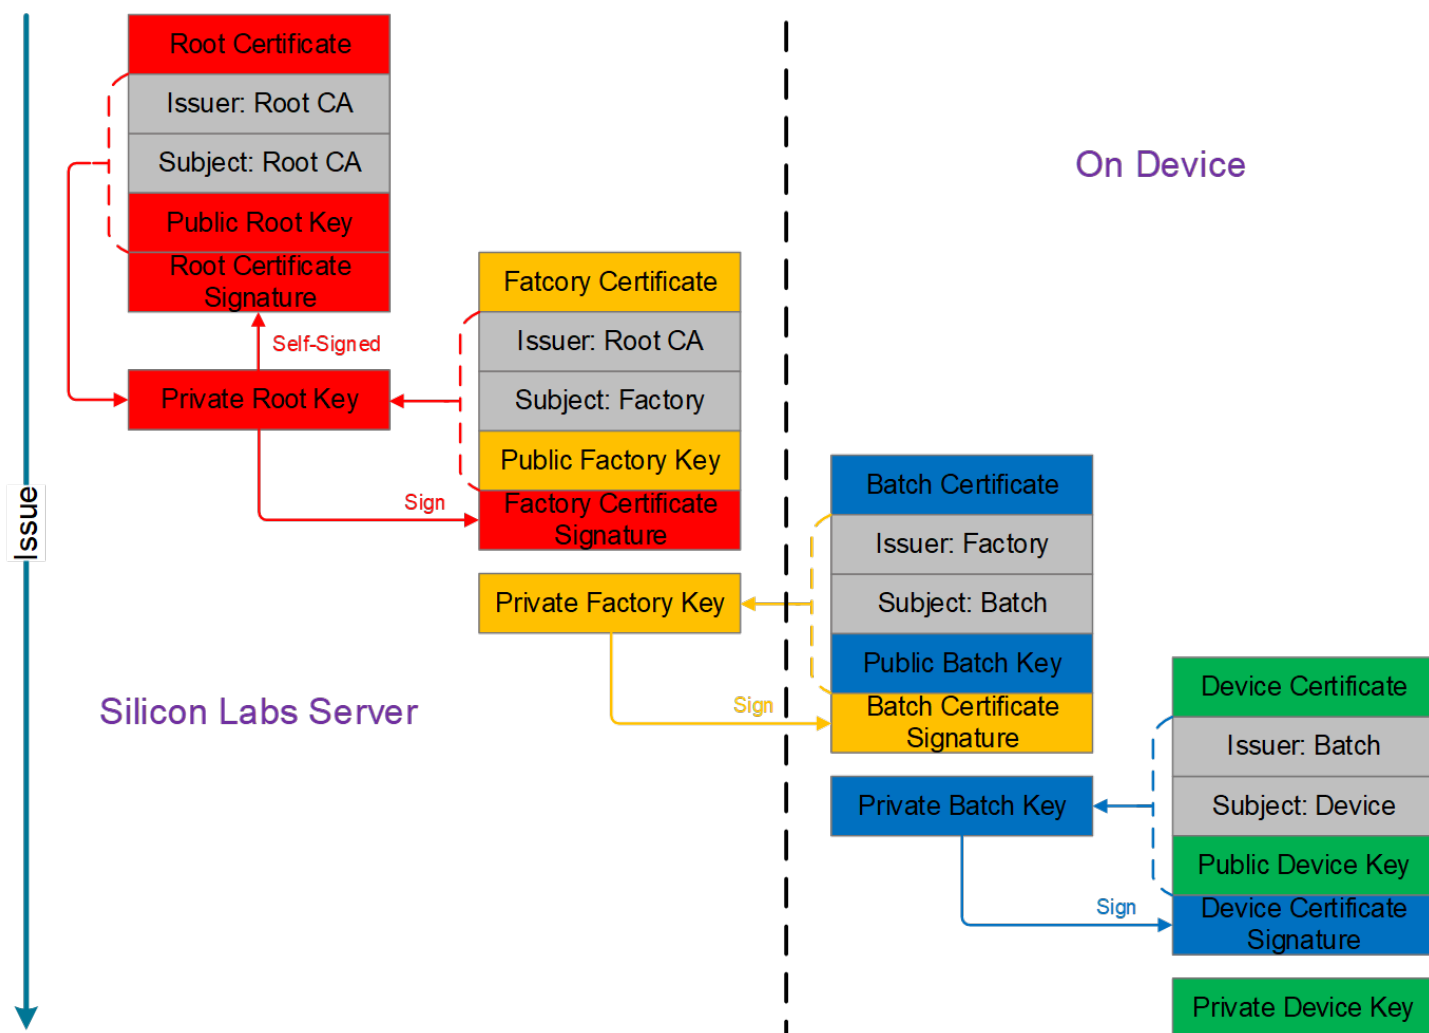
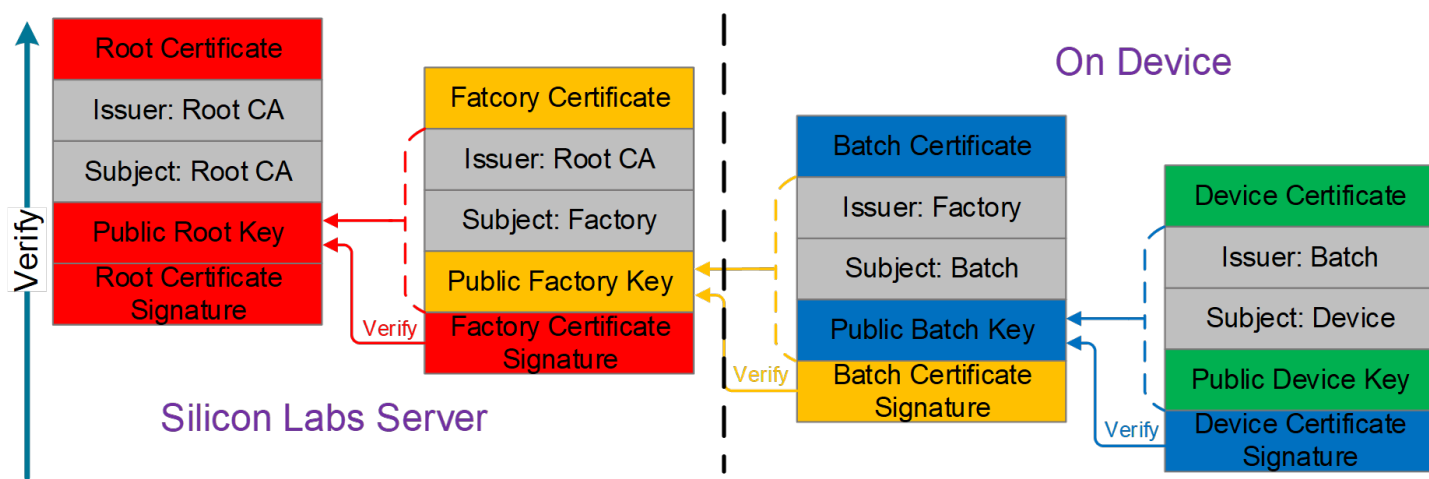

Figure 4.3. Signing for Certificates
Figure 4.4. Verification for Certificates
- Silicon Labs is a Certificate Authority (CA).
- Each certificate in the chain is signed by the certificate above it (Figure 4.3 Signing for Certificates on page 10).
Signing and verification for certificates on Secure Vault devices are described in Figure 4.3 Signing for Certificates on page 10 and Figure 4.4 Verification for Certificates on page 10.
The Secure Vault devices are each programmed with a device certificate during IC production. The device certificate is signed with a Public Device Key, using a Private Batch Key that can be validated against a Silicon Labs certificate chain (Figure 4.4 Verification for Certificates on page 10 and section 7.2 Certificate Chain Verification). The device private key never leaves the Secure Key Storage on the chip. Customers can create their own device certificates during their production.
3. The remote device validates each certificate in the chain using the public key of each Issuer (Figure 4.4 Verification for Certificates on page 10).
Certificate chain verification is the process of making sure a given certificate chain is well-formed, valid, properly signed, and trustworthy. The certificate signature is verified using the public key in the issuer certificate (Figure 4.4 Verification for Certificates on page 10).